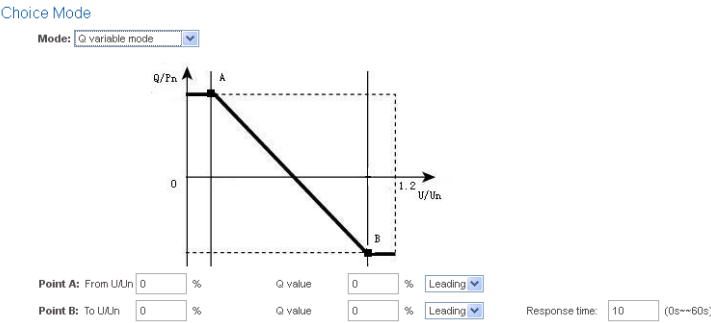

Fig. 7-14: Q variable mode
- Q variable mode: Under this mode, the PMU will produce a curve according to the “U/Un”, “Q value” and phase position of points A and B, and to adjust reactive power according to this curve, as shown in Fig. 7-14.